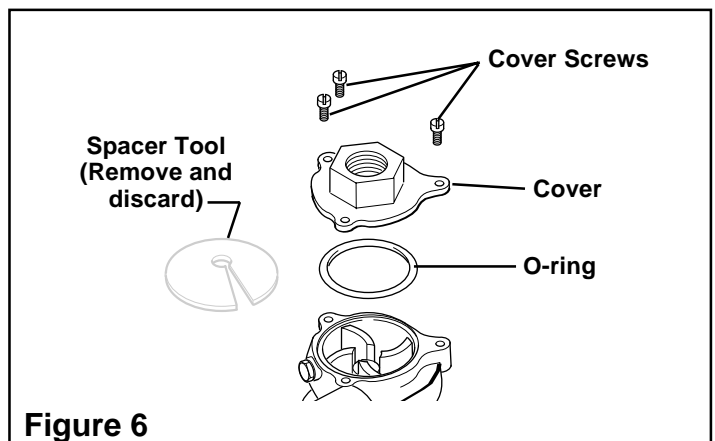

Figure 6
8. Apply a thin coat of oil to the new O-ring; then, install the new O-ring onto the Cover (See Figure 6).
9. Align the Cover with the Housing and secure it to the Cover using the three Cover Screws (See Figure 6).